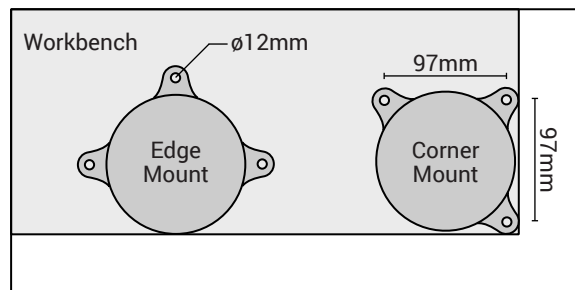

Fig. 1
2. Find the best location on your worktop to mount your vise. It is good to select a spot that allows access to the leadscrew with handle, as well as the pivot locking nuts. Recommended mounting placements can be seen in Fig. 1. When choosing a location, make sure the leadscrew is on your dominant-hand side for rotating purposes.